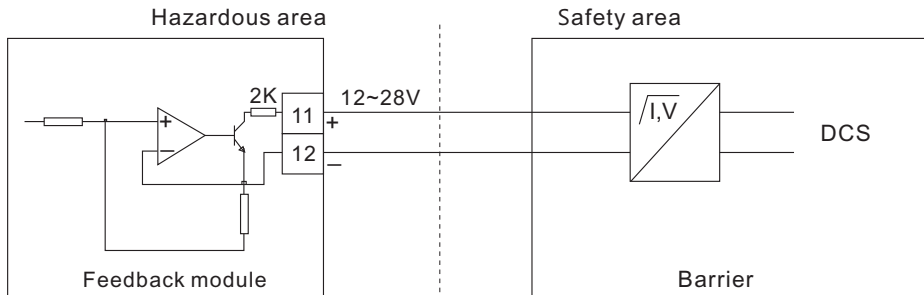

Fig 4-12 : Feedback module electrical connection
4.4.3.3 Analog feedback module electrical connection(Fig 4-12)